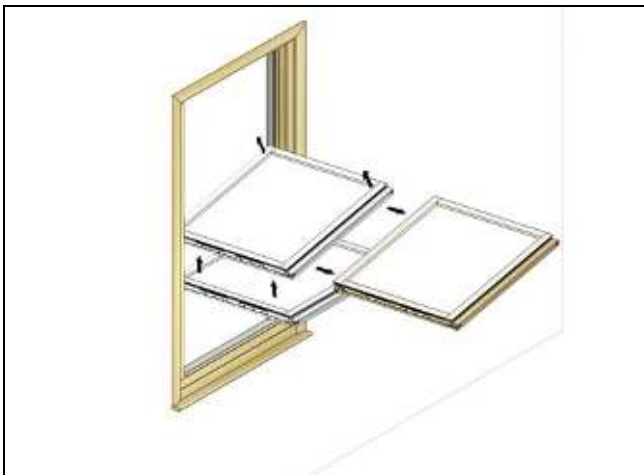

Figure 31
2. Hold the top sash in a horizontal position, top rail toward you, exterior face up. Sash pivot pins must be placed 2"-3" (51-72) above the clutch assemblies when relocating in jamb carrier tracks. Pivot one side of the sash up to enable pivot pins to clear jamb carrier assemblies when aligning sash in tracks, pivot sash back to horizontal (flat) position. Lower sash pivot pins into balance clutch cams. Check pins to ensure they are fully engaged in the clutch cams before proceeding. See Figure 31.